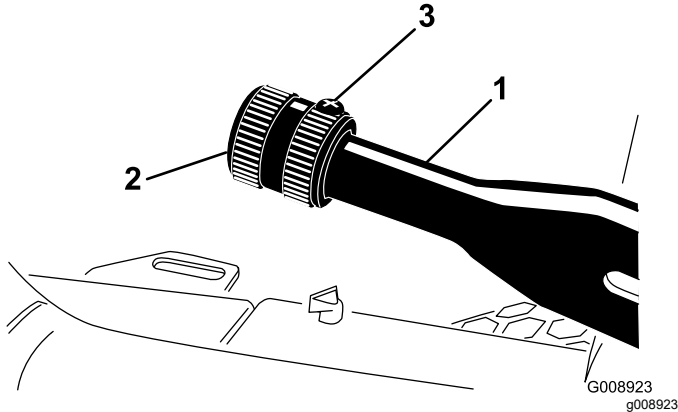

Figure 83
2. Loosen the setscrew securing the knob to the parking-brake lever (Figure 83).